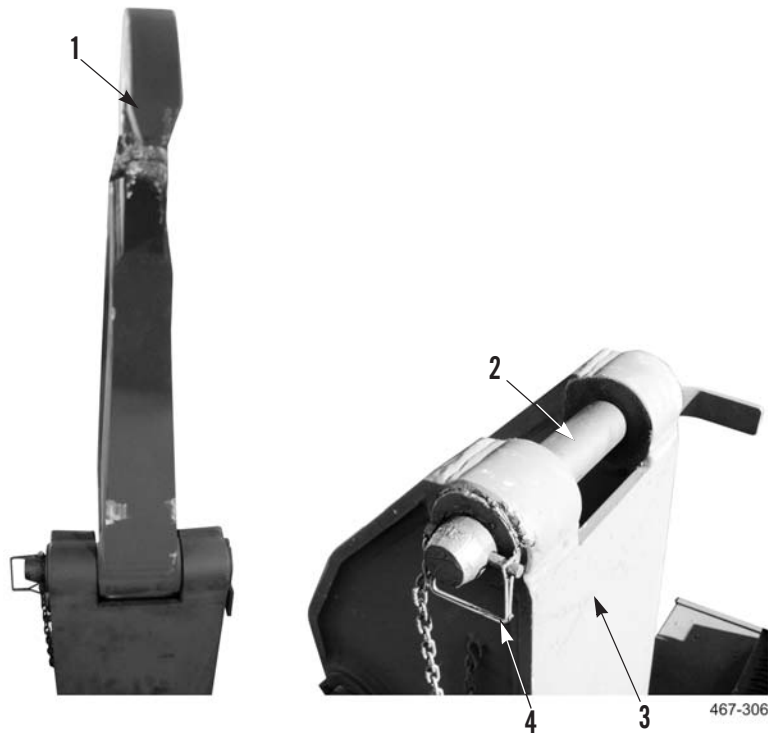

Figure 1. Lower Hook Arm.
2. Attach sling and lifting device to hook arm (Figure 1, Item 1).
3. Remove locking pin (Figure 1, Item 4), and hook arm pin (Figure 1, Item 2) from hook arm base (Figure 1, Item 3).
4. Use lifting device to lower hook arm (Figure 1, Item 1) to middle frame.
6. Install hook arm pin (Figure 1, Item 2), and locking pin (Figure 1, Item 4) in hook arm base (Figure 1, Item 3).